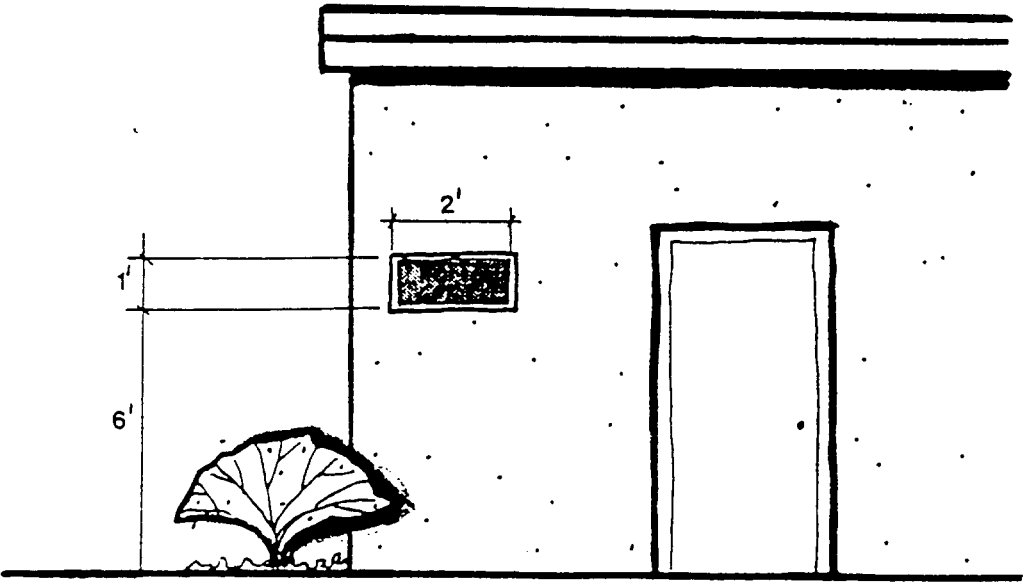

FIGURE 17
- Information signs mounted on the rear of a structure should not exceed two square feet in size or be placed higher than six feet from the ground. (See Figure 17.)